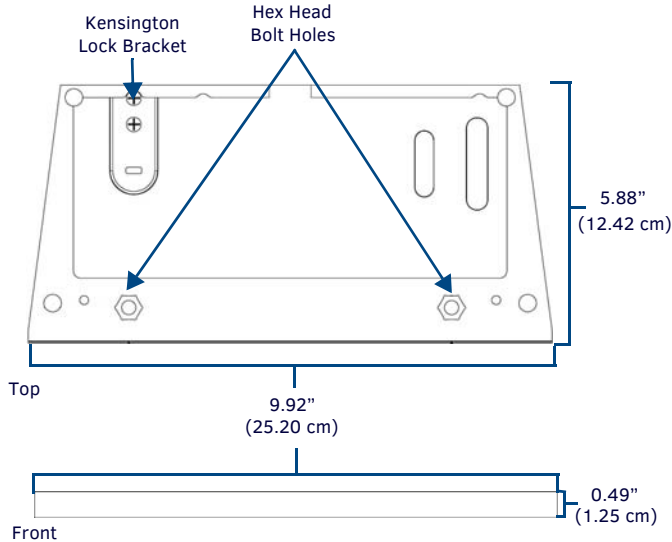
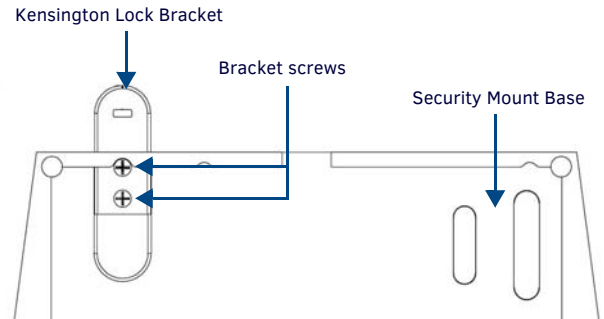

FIG. 1 MXA-STMK-10 SECURE TABLE MOUNT KIT
FIG. 8 KENSINGTON LOCK BRACKET INSTALLATION
- On the security mount base (FIG. 1), loosen the two screws holding the Kensington Lock bracket to the base (FIG. 8) and remove the bracket.
- Reverse the bracket in its slot so the rounded end faces outward (FIG. 8), and re-secure it to the security mount base with the two bracket screws. On the touch panel, turn the touch panel upside down and remove the 2 Phillips head screws from the bottom of the device.